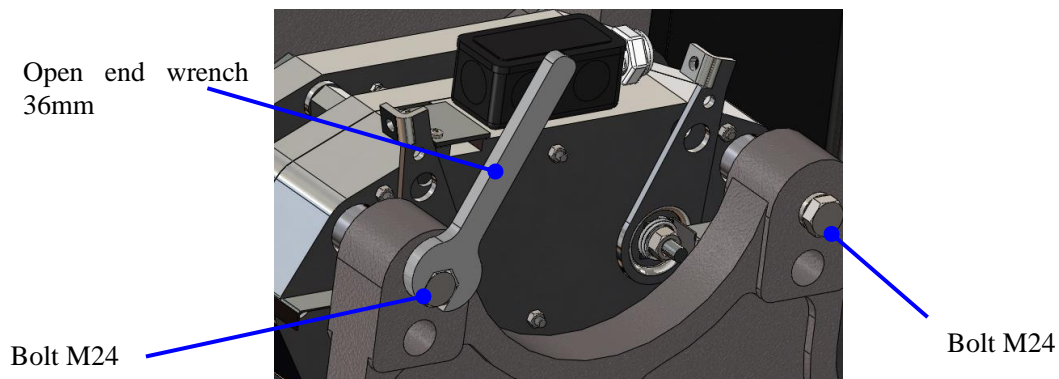

Figure 35: Bolt removal
2. Use the open end wrench 36mm to remove the bolt M24. See Figure 35.